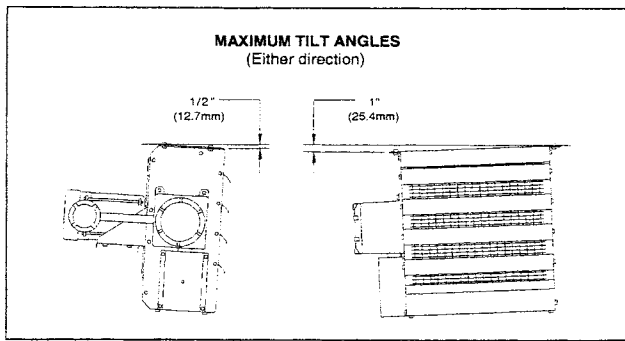

FIGURE 2
1. The heater must be permanently mounted in a level, upright position for operation. See Figures 2, 3, and 4 for maximum tilt angles, installation clearances, and physical dimensions.